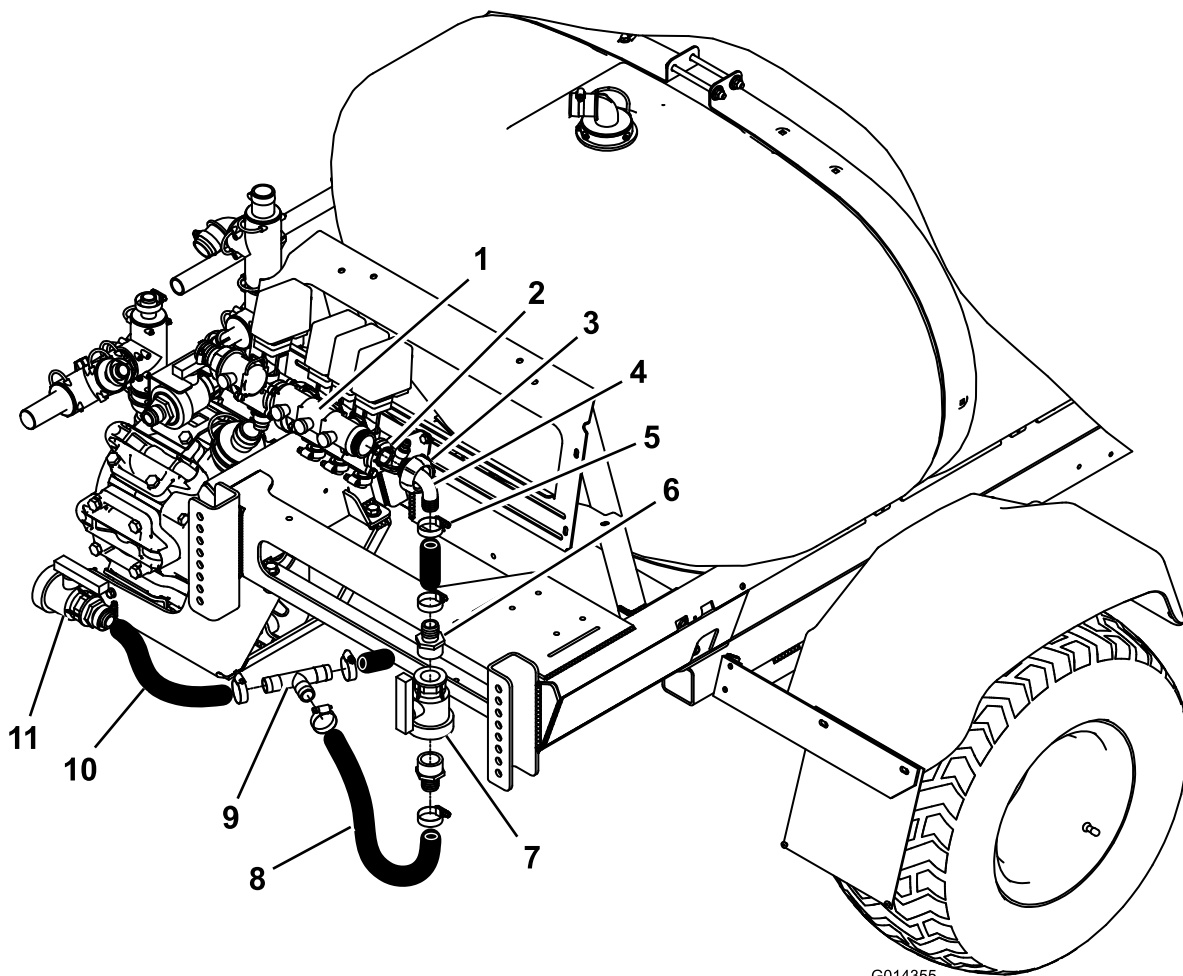

Figure 3
4. Install the O-ring on the flanged end of the 90-degree elbow, and insert the elbow into the right-hand side of the balancing valve assembly (Figure 3).
6. Locate the drain hose under the machine and cut the hose about 24 inches from the drain valve (Figure 3).
7. Slip a hose clamp over each hose end, and install a hosebarb tee fitting between hose ends (Figure 3).
9. Cut the agitation bypass hose (Figure 3) 2 or 3 inches from the elbow fitting.
10. Install the agitation bypass hose from the tee to the elbow (Figure 3).
12. Insert the ball valve and 2 straight barbed fittings and 2 hose clamps as shown in Figure 3.
13. Secure the ball valve and 2 straight hose fittings with the 2 hose clamps (Figure 3).